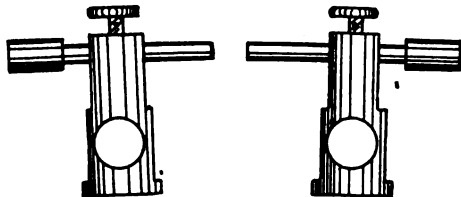

Fig. 60.—Spark and anchor gaps
The construction of spark gap (SM) and anchor gap (RT) is shown in Fig. 60. They are very simple and consist of two binding posts, known as the "double" type, having two holes through each. Through the upper holes pass zinc rods $\frac{1}{8}$ inch in diameter and $1\frac{1}{2}$ inches long. The ends of the rods are threaded to take the hard-rubber handles. In the